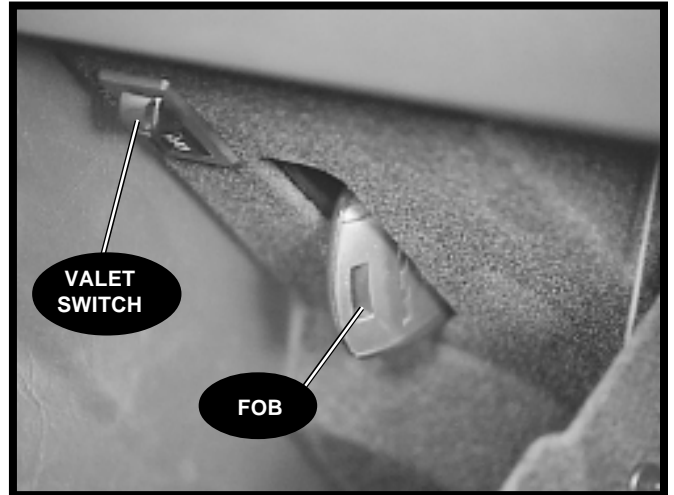

Figure 5-4, Glove Box Pocket for Fob
1. Place the fob in the fob pocket located in the glovebox with the button side of the fob facing right (figure 5-4). This places the back of the fob next to the limp-home antenna in the glovebox.